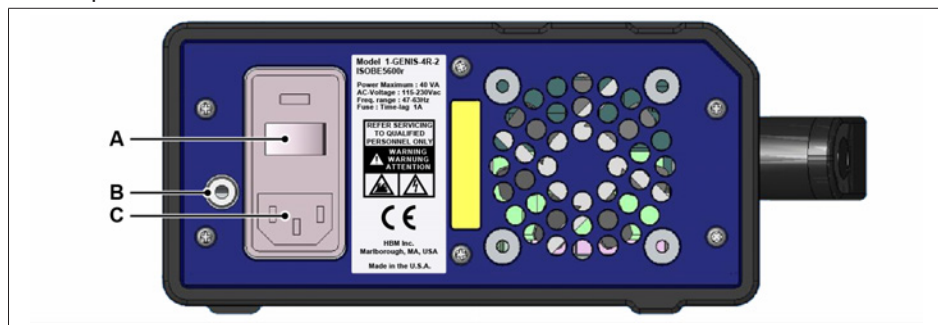

Fig. 7.1 ISOBE5600r/ISOBE5600m rear view with AC power inlet
The receiver is delivered with a standard power cord that should be inserted into (C), see Fig. 7.1, and must be connected to a suitable AC power outlet. According to the standards utilized in your country, you may be required to purchase a different power cord.